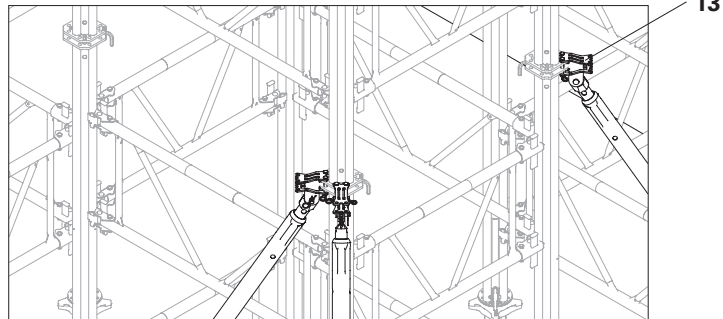

Fig. A5.03a
4. Fit Push-Pull Props RS at the prop joints. (Fig. A5.03a)